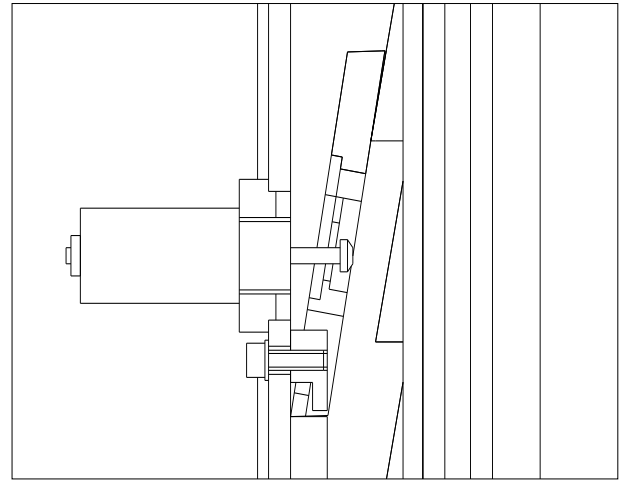

Fig. 33
- ◆ Install safety devices, which including solenoid, self-locking board and hook according to **Fig.33**.